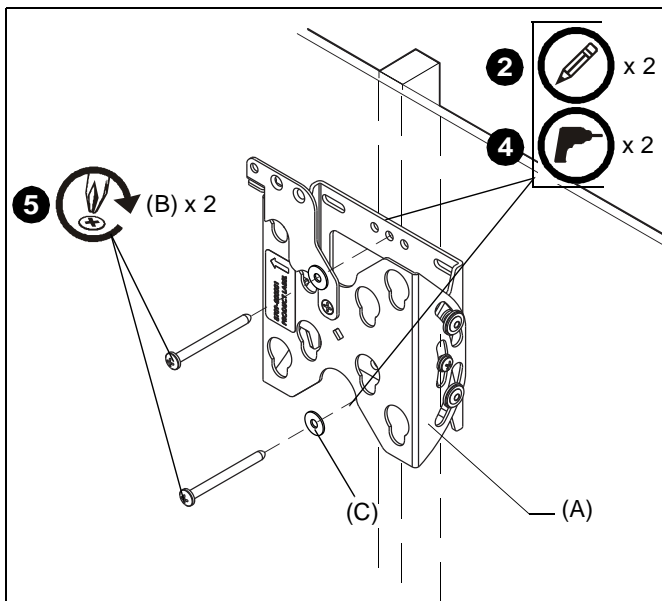

Figure 1
3. Level FTR1U/FTR100 assembly (A) at desired height and, using it as a template, mark the location of upper and lower pilot holes. Ensure marks are in the center of wood stud.
5. Fasten FTR1U/FTR100 assembly to wood stud using two #10 x 2-1/2" Phillips head screws (B) through two #10 washers (C), FTR1U/FTR100 assembly (A), and drywall (not shown) and install into pilot holes. (See Figure 1)